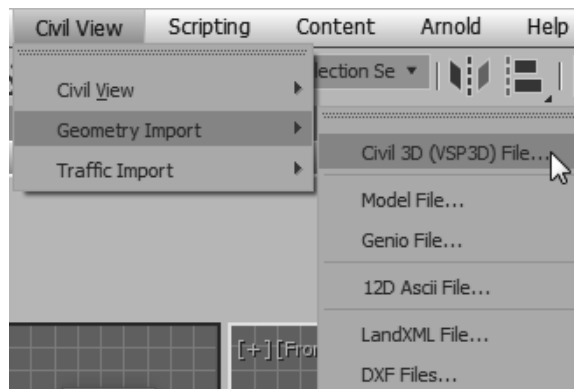

Figure 3–2
- Once Civil View is started, you can import the required geometry by selecting **Civil View>Geometry Import** as shown in Figure 3–2.